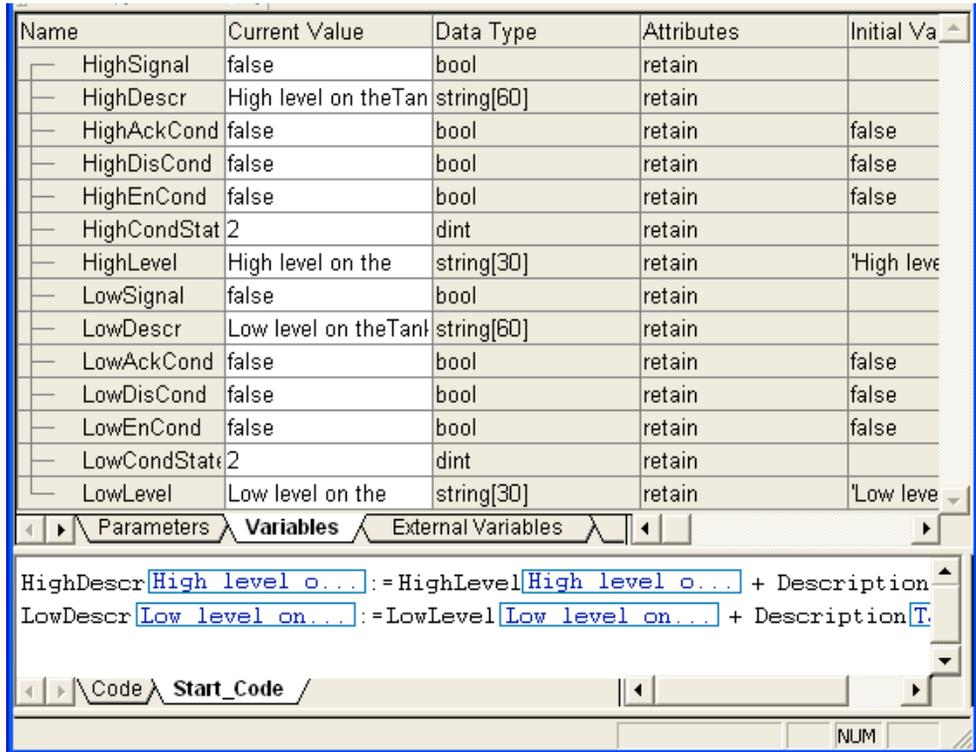

Figure 120. Part of Online editor for Tank11.
- Under Applications, alarmsimple\_m, and Control Modules, double-click Tank11 or Tank12. The corresponding online editor is displayed (Figure 120).